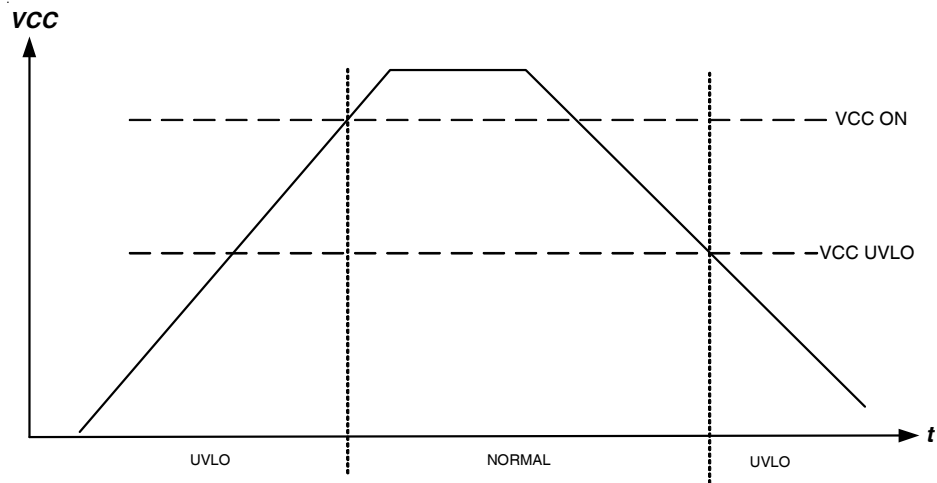

Fig. 14 - VCC Under Voltage Lockout
**Fig 14.** Max  $V_{CC}$  Voltage vs. Synchronous Rectifier Switching Freq,  $T_J=125^{\circ}\text{C}$ ,  $T_{IC} = 85^{\circ}\text{C}$ , external  $R_G=6\Omega$ ,  $1\Omega$  HEXFET Gate Resistance included